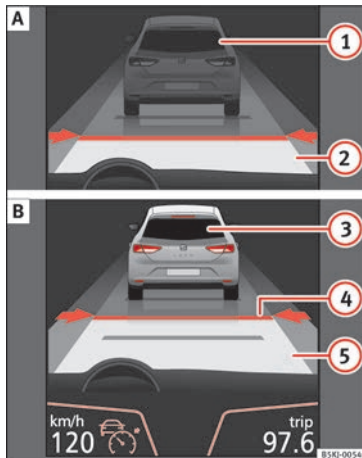
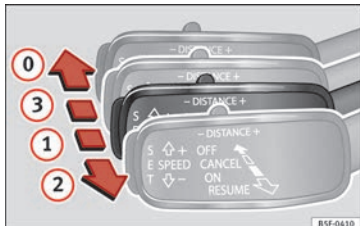

Fig. 194 On the instrument panel display: (A) ACC inactive (Standby). (B) ACC active.
Fig. 196 On the left of the steering column: third lever for operating the Adaptive Cruise Control.
Indications on the display »» Fig. 194:
When the Adaptive Cruise Control (ACC) is connected, the green control lamp  will light up on the instrument panel, and the programmed speed and ACC status will be displayed »» **Fig. 194**.
Once you are driving, if you wish to set the current speed as the vehicle's cruise speed and activate the ACC, press the **SET** button »» **Fig. 197**. If you wish to increase or reduce speed by intervals of 1 km/h (0.6 mph), move the lever to position **2** or press the »» **Fig. 196** button **SET**.
The set speed can be changed when the vehicle is stopped or during driving, as you like. Any modification to the programmed speed will be shown on the bottom left part of the instrument panel display »» **Fig. 194**.
- To activate the ACC, press the **SET** button or move the third lever of the ACC to position **2** » **Fig. 196**. At this point, the image of the ACC on the instrument panel display will switch from *Inactive* (Standby) to *Active* mode » **Fig. 194**.
To disconnect the ACC move the lever to the **0** position » **Fig. 196** (engaged). An **ACC deactivated** message appears and the function is totally deactivated.
If you do not wish to disconnect the ACC, just to switch it temporarily to inactive mode (Standby), move the third lever to position **3** » **Fig. 196** or press the brake pedal.